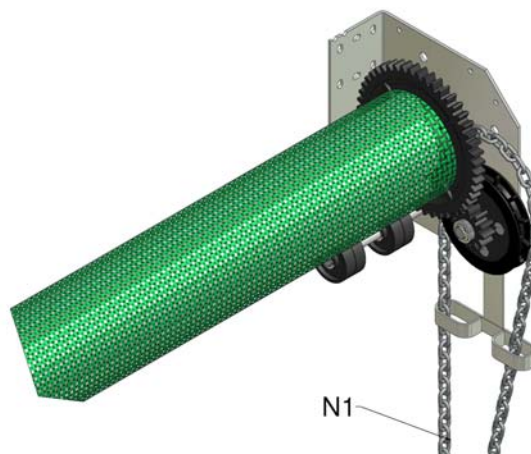

Figure 8, Installing Operating Chain
7. Feed the operating chain (N1) around the chain wheel, through the chain guide and trim to length if required (Figure 8). Make chain into a continuous loop by sawing through one link, bending open, and joining the two ends. After closing, file away any sharp edges to ensure the chain does not injure operators; it is unnecessary to weld the link shut.